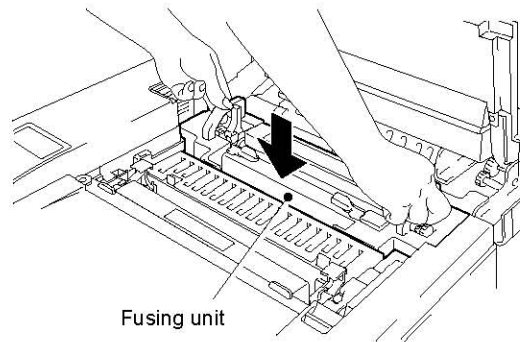

Fig. 6-18
- (1) After turning off the printer, unplug the power cable from the power outlet.
- (2) Open the rear access cover. (Fig.6-18)